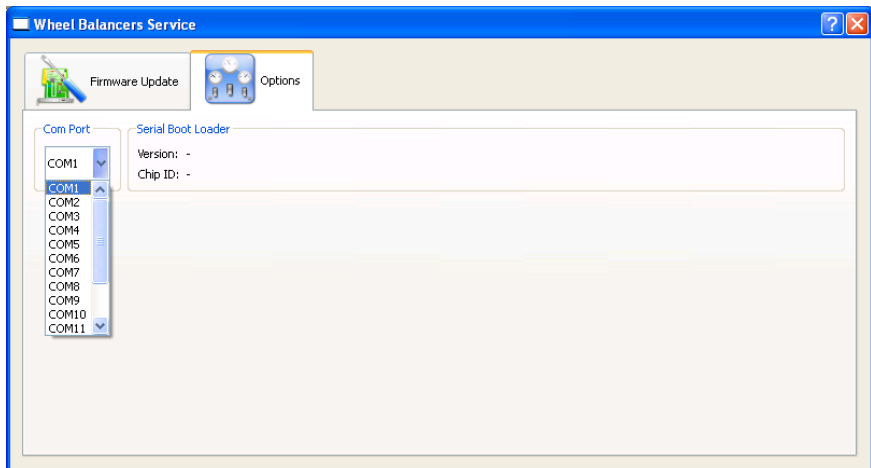

Fig.5b
- Select the Options tab and the COM serial port where the programming cable is connected to the PC, see figure 5b.